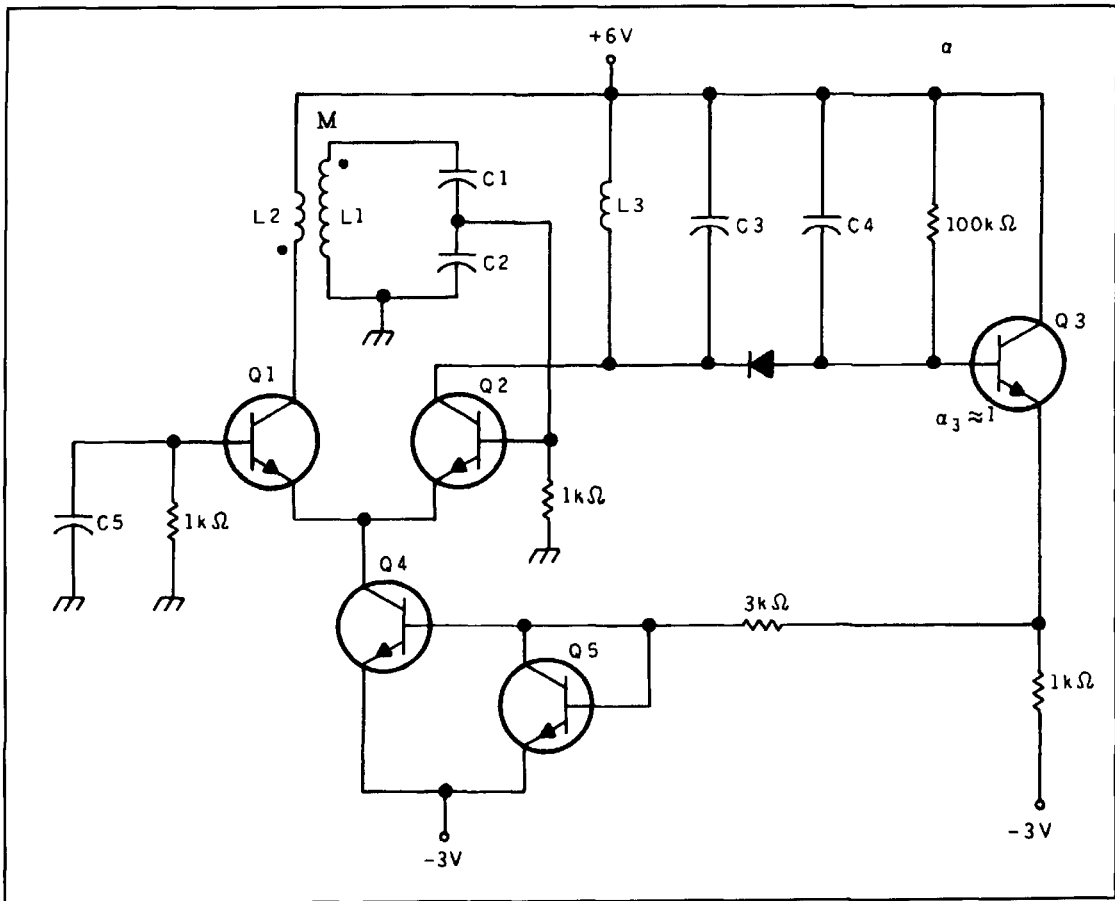
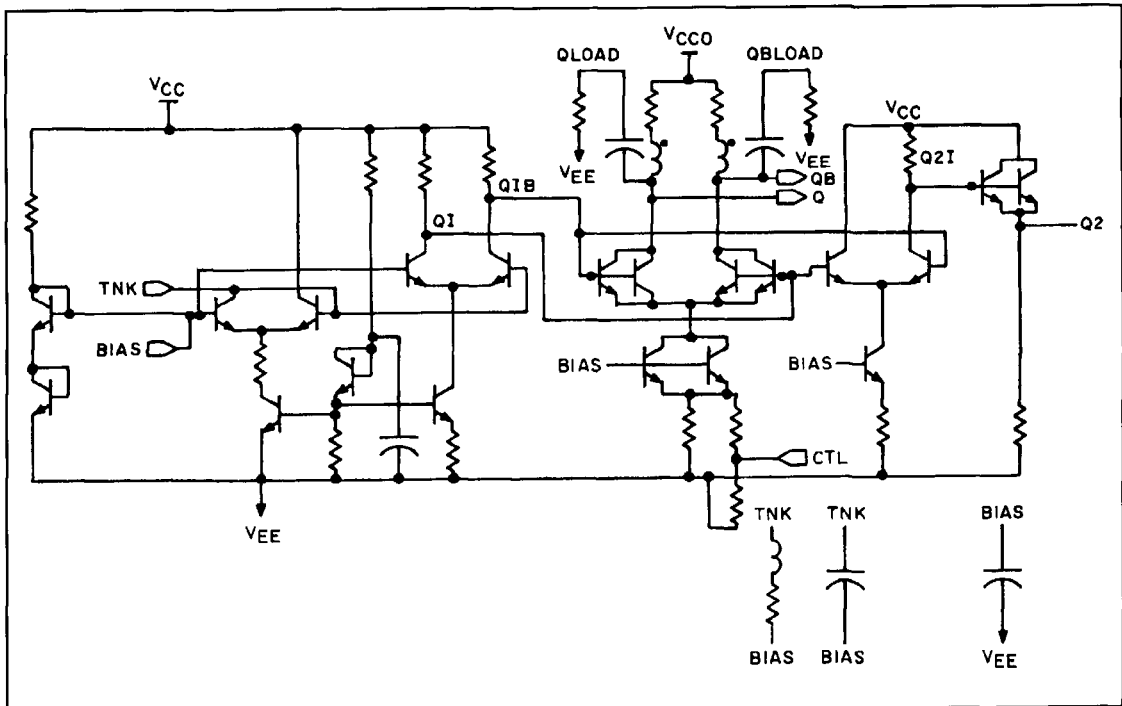
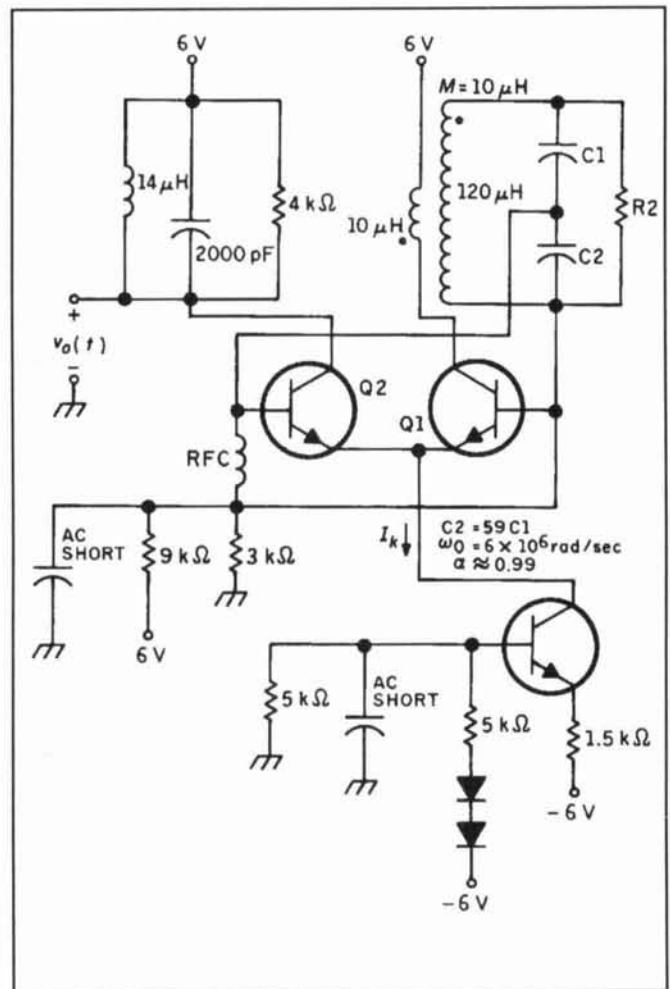

Figure 26. Oscillator using a differential amplifier and a biasing scheme. This should be used as an analysis example for modern CAD tools.
Figure 27. Schematic of the Motorola VCO shown in Photo A.
Figure 29. Implementation of the oscillator shown in Figure 28 using an IC approach and combining the feedback of both transistors.
little experiment where we changed the bias of the oscillator and reduced the loop gain. The DC current dropped from 3 mA to approximately 500 μ A. Because the flicker noise is extremely bias-dependent, the phase noise improved; however, the output power dropped by about 10 dB. Simulation of this circuit also showed a nonsinusoidal waveform at the output, which, due to space constraints, is not reproduced here. A circuit typically used for LSI application is shown in **Figure 26** and is taken from **Reference 1**. These types of oscillators are actually being used for various applications and the interested user should use modern CAD tools to investigate their performance. Due to the heavy feedback in those oscillators, the simulation shows that they are not as sensitive to parameter variation of the devices as one might expect. A particularly nice application of this type is a Motorola VCO done entirely on silicon material. **Photo A** shows its layout and **Figure 27** shows its schematic representation. The monolithic inductors used in the VCO were designed using Compact Software's *Microwave Explorer* program to model the effect of various ways of building those inductors. Measured and predicted Qs of the inductors show extremely good agreement as comparisons. **Figure 28** shows a discrete VCO for complexity and size. One can see that considerable progress has been made here in high integration and first-hand layout of these devices, when compared with the older version of **Figure 29**.
6. Wes Hayward and Doug DeMaw, *Solid-State Design for the Radio Amateur*, American Radio Relay League, Newington, Connecticut, page 126, **Figure 26**.